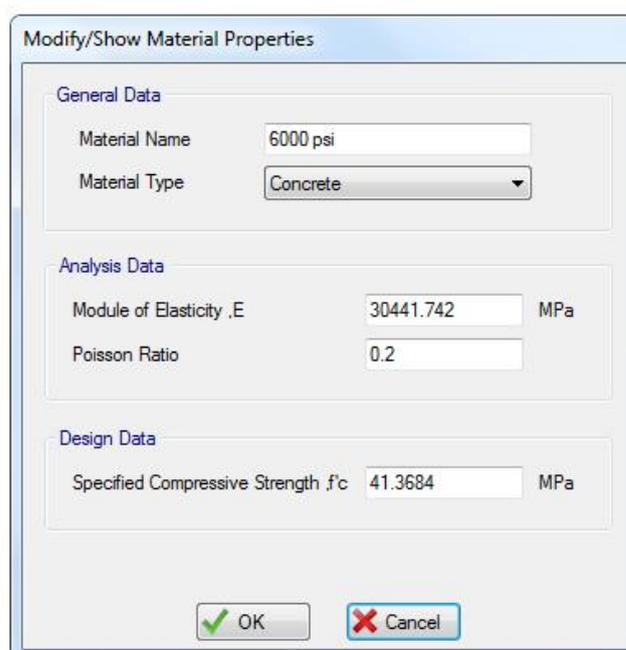

Figure 3-4, Modify/Show Concrete Material Form
- **Concrete:** concrete material is used for modeling the footing and grout. Modulus of elasticity and Poisson's ratio are the parameters for finite element modeling and Specified concrete compressive strength is used to control the bearing capacity of footing/grout (Figure 3-4).